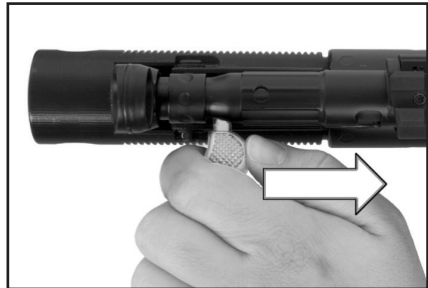

Fig. 20 – Move the bolt rearward
3. Open and lock the bolt to the rear. Grasping the charging handle on the left side of the receiver (located adjacent of the front sight) and move the bolt to the rear while keeping the muzzle pointed in a safe direction (Fig. 20). Place the charging handle in the upward, locking recess notch (Fig. 21 Ⓐ and Ⓑ). The bolt should be locked in the rear position. Watch for a cartridge or empty case to be ejected out through the ejection port.